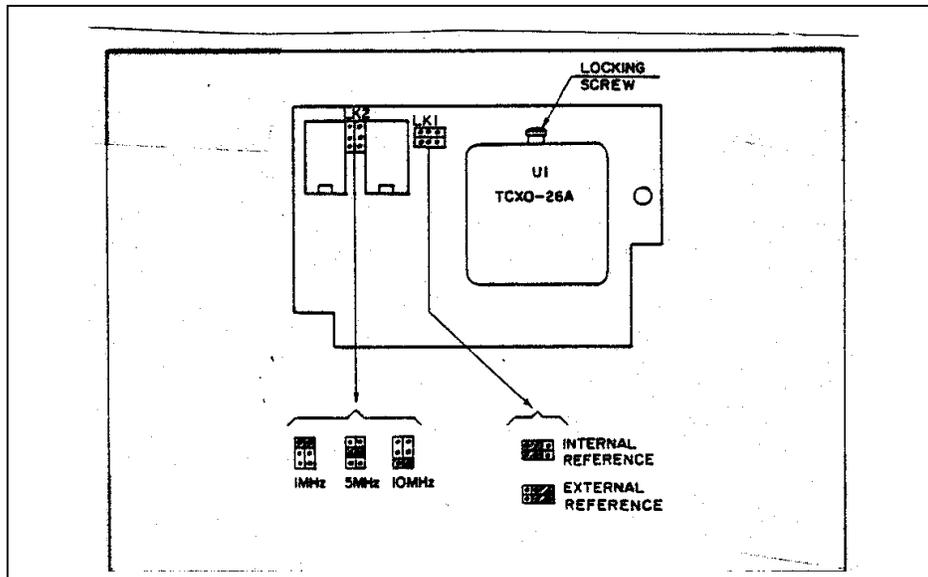

Figure 5-2. Reference Frequency and INT/EXT Clock Selection.
6. LK1a/LK1b is used for selecting between internal and external references. Proper positioning of LK1a/LK1b is described in Figure 5-2. Note that the rear panel BNC connector is used as an output when the internal reference is selected. When LK1a/LK1b was set to accept an external reference, the same rear panel connector is used as an input for the reference frequency.
7. External reference frequency may be selected from one of three standard frequencies: 1 MHz, 5 MHz or 10 MHz. Option 1 has to be set to accept one of these frequencies. The required frequency may be selected by changing the position of LK2. Refer to Figure 5-2 for correct placement of LK2.
2. Assemble and solder J3 on the main board as shown in Figure 5-2.